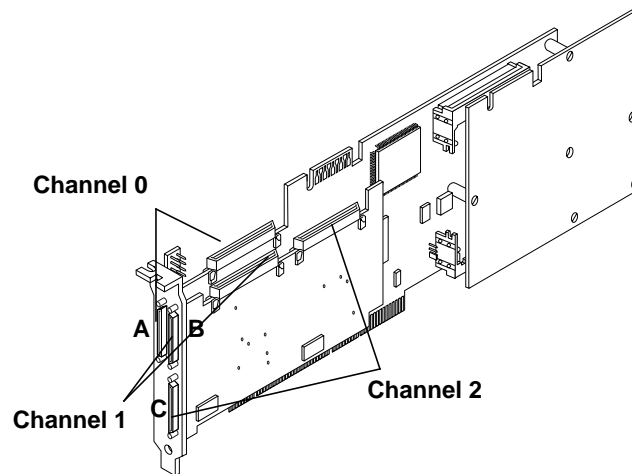

FIGURE 1-1 Sun StorEdge SRC/P Intelligent SCSI RAID Controller
- Sun StorEdge SRC/P Intelligent SCSI RAID Controller with battery module and one 64-Mbyte memory module (FIGURE 1-1)